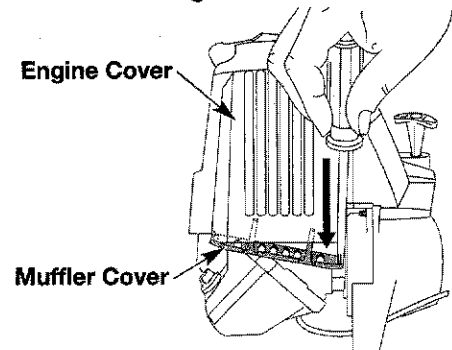

Fig. 51
1. Remove the muffler cover by pressing down on the corner with a flat blade screwdriver (Fig. 51). Slide the notches on the sides of the muffler cover over the tabs on the engine cover and remove
- Replace the muffler cover. Slip the long tabs on the muffler cover into the engine cover. Slide the notches on the side of the muffler cover over the tabs on the engine cover and snap into place (Fig. 51).